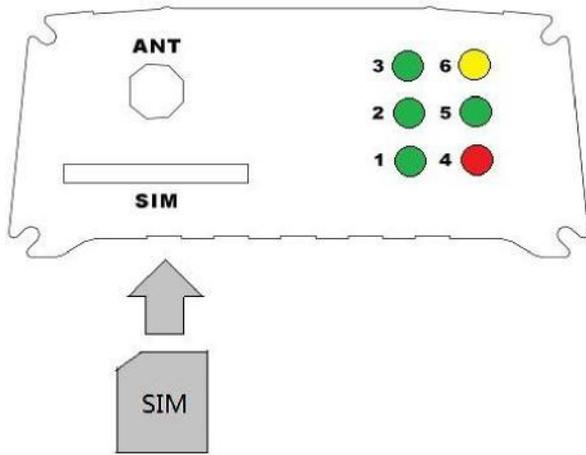

Fig 1
5.1 SIM CARD INSTALLATION (Fig1)